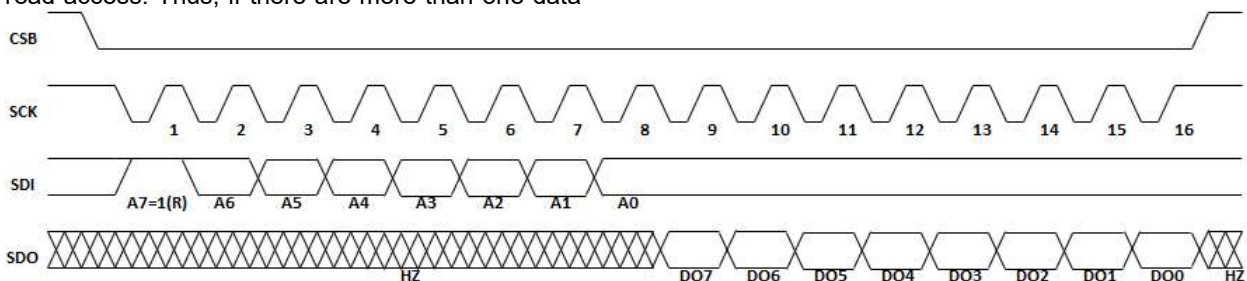

Figure 13. SPI 4-Wire (SDOFS=00) protocol – Read access (A7=1)
Figure 13 illustrates 4-wire (SDOFS=00) SPI bus read access communication (A7=1). The SDO line is at high impedance state (HZ) until it outputs the MSB data bit (DO7) at falling edge of the eight SCK clock pulse.